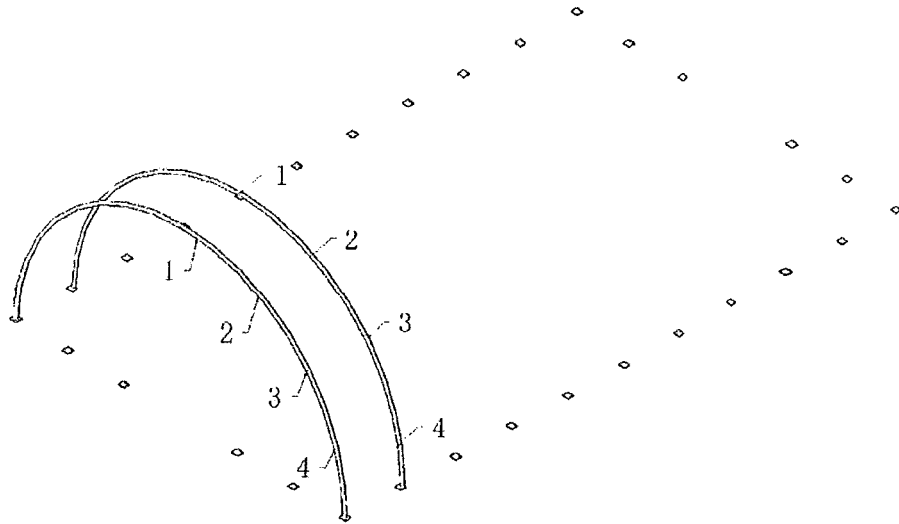
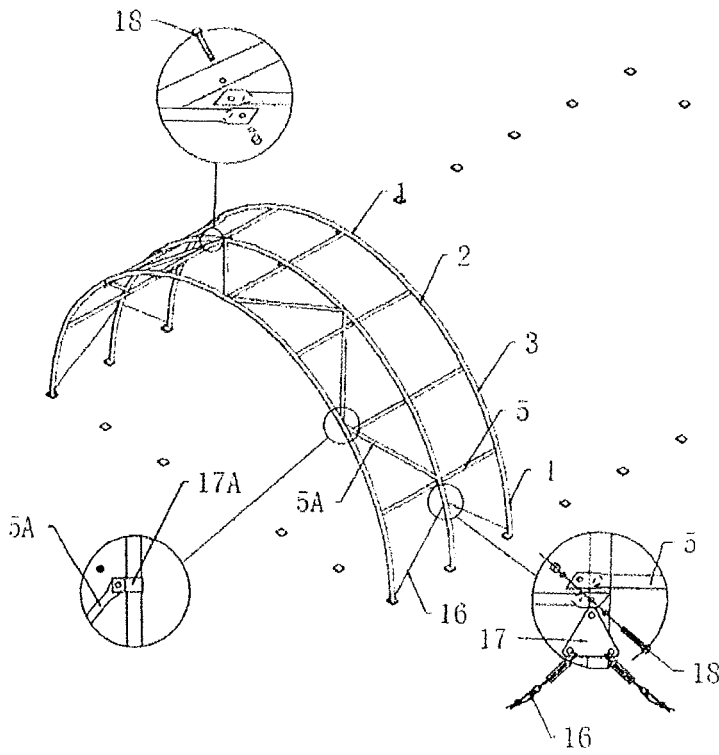

Figure 6
Figure 7
2. Put the second group of arch frame into the base plates like the Figure 6 shows. Use purlins (No. 5) to connect them by bolt M12x100 (No. 18) and angle iron (No. 17), then install the third arch into the base plate and connect the purlins. In this turn fix all other arches and purlins as figure 7 shown until the frame is completed.